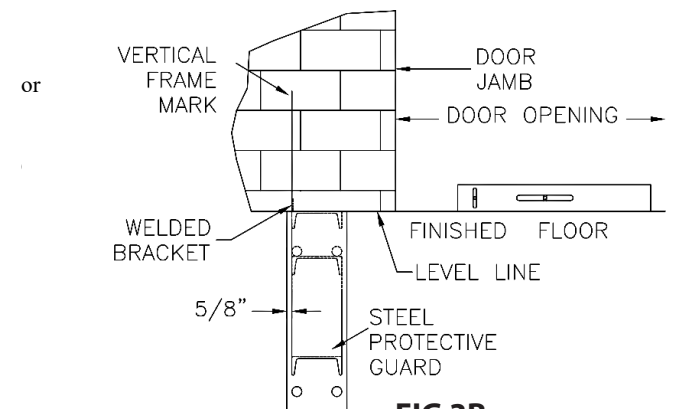

FIG 3B
- * Determine left and right Protective Guards. The welded bracket goes to the side farthest away from door opening (Figure 3b).